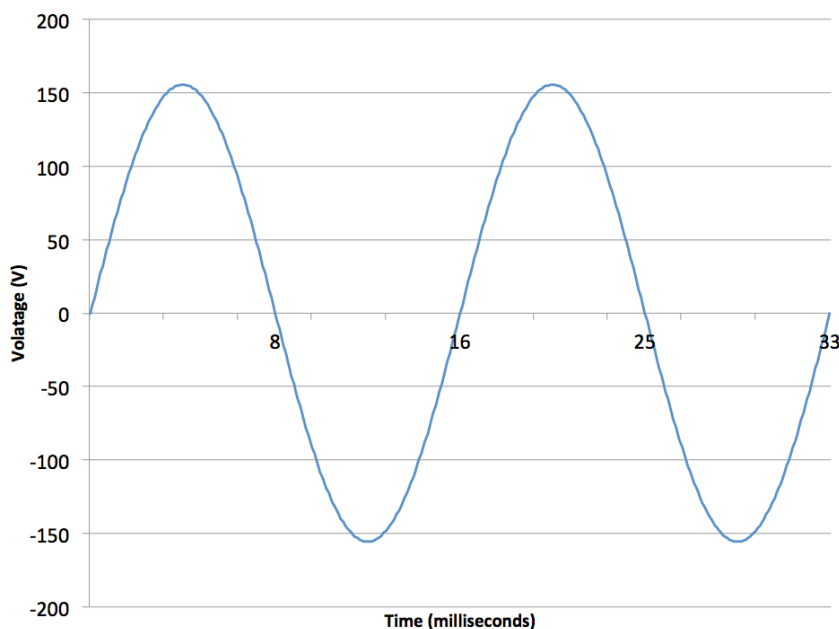

Figure 13-1 Alternating current (and voltage)
Whereas direct current (DC) always has current flowing in one direction, alternating current (AC) just can't keep still. The direction of current flow reverses 120 times per second in some parts of the world (including the United States) and 100 times per second in other parts of the world. This reversing of the current flow is achieved by a reversal of the voltage across the load (Figure 13-1). There are two reversals of the flow of current in each full cycle and so the frequency of the AC is either 60 or 50Hz (cycles per second). Hertz is the unit of frequency and 1Hz is one cycle per second.
As you can see from Figure 13-1, the peak positive and negative voltages are actually considerably higher than 120V. The figure 120V AC is actually a kind of average voltage called the RMS voltage. This is the equivalent DC voltage that would be able to supply the same amount of power to a load. So, 120V DC would make an old-fashioned filament light bulb shine at the same brightness as powering it from 120V AC.